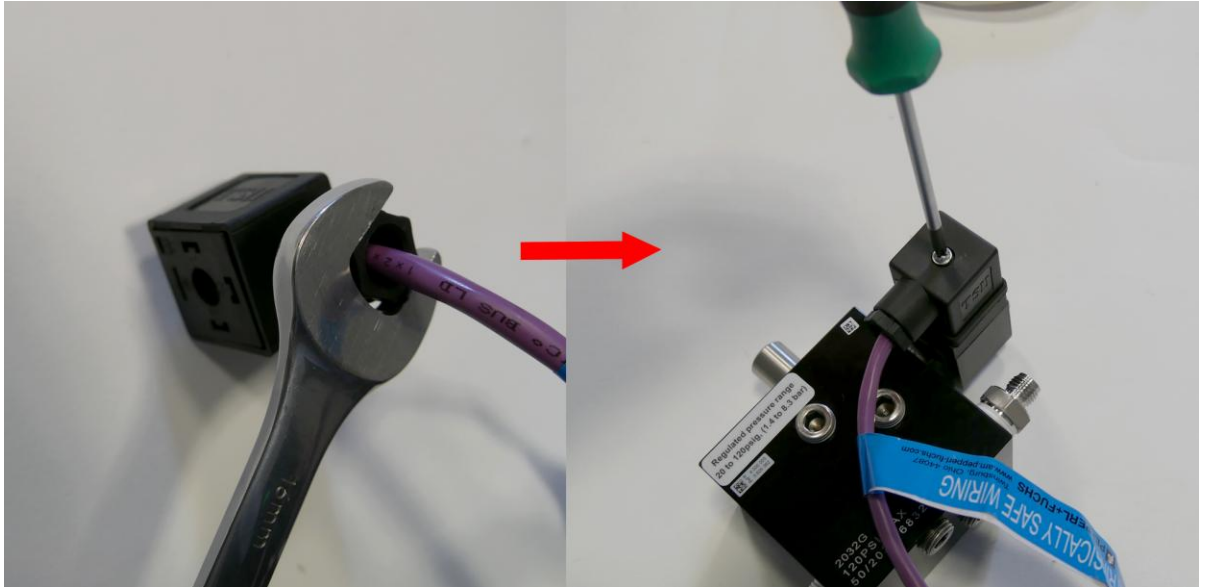

Figure 164. Manifold connection block closing.
4. Close the manifold connection block and twist the plastic nut with 16mm wrench, then screw the block into the manifold using cross screw (Figure 164).